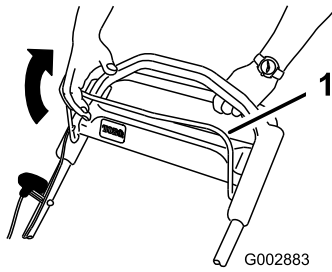

Figure 16
2. Hold the blade control bar (Figure 16) against the handle.